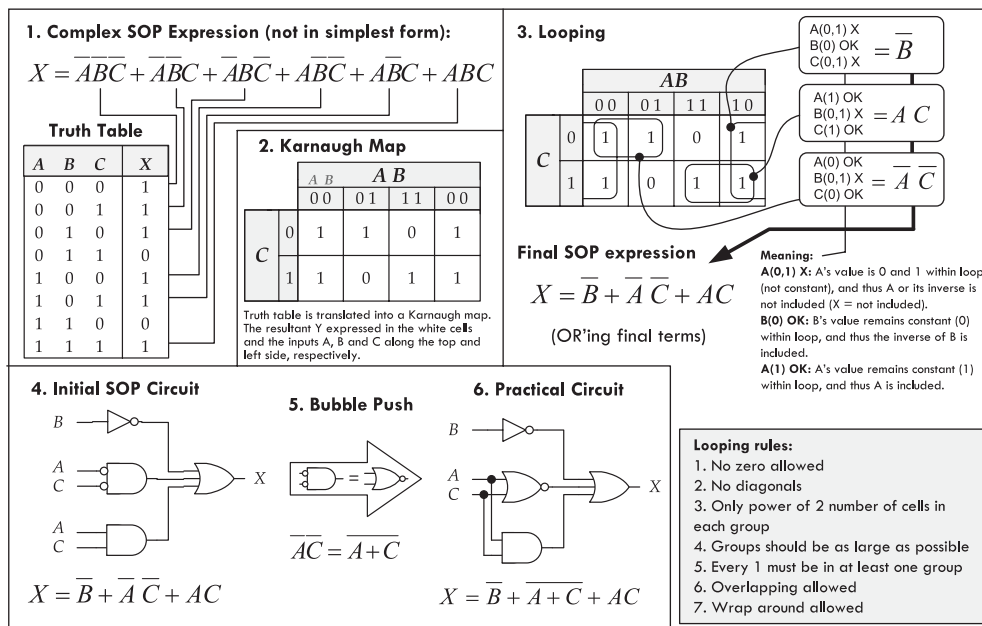

FIGURE 12.27
1. Select a desired truth table. Let's choose the one shown in Fig. 12.27. (If you have a Boolean expression, transform it into an SOP expression and use the SOP expression to create the truth table.)
2. Translate the truth table into a Karnaugh map. A Karnaugh map is similar to a truth table but has its variables represented along two axes. Translating the truth table into a Karnaugh map reduces the number of 1s and 0s needed to present the information. Figure 12.27 shows how the translation is carried out.
4. Identify the variable that remain constant within each loop, and write out an SOP equation by OR'ing these variables together. Here, constant means that a variable and its inverse are not present together within the loop. For example, in Figure 12.27 section 3, the loop that contains four 1s is reduced to \bar{B} because $B = 0$ throughout the loop, while A and B aren't constant because they take on values of 0 and 1 throughout that loop. (If a variable is constant 0, the final expression is the inverse of that variable; if the variable is constant 1 throughout the loop, the final expression is the non-inverted variable.)
5. The SOP expression you end up with is the simplest possible expression. With it, you can create your logic circuit. You may need to apply some bubble pushing to make the final circuit practical, as shown in Fig. 12.27.